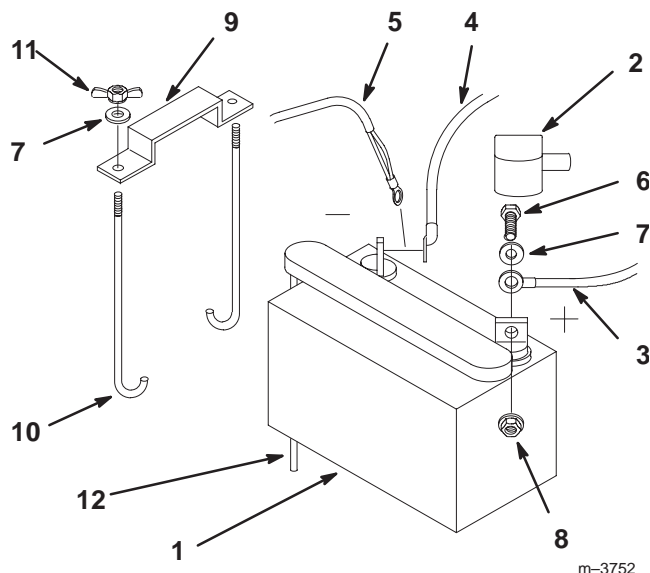

Figure 8
1. Position battery in tray with terminal posts toward the engine (Fig. 8).
- Secure cables with (2) 1/4 x 3/4" (19 mm) bolts 1/4" washers and 1/4" locknuts (Fig. 8).
- Secure battery with J-bolts, hold down clamp and (2) 1/4" washers and (2) 1/4" wing nuts (Fig. 8).